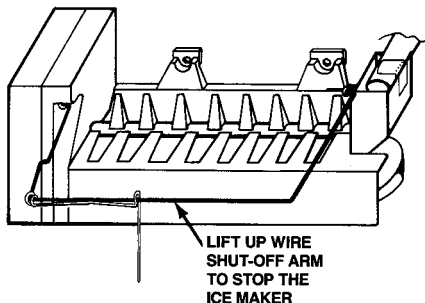

FIGURE 38
2. **Stopping Ice Production:** To stop ice production or to remove the ice bin: take hold of wire arm near black housing, and lift up. There will be an audible "click" when ice maker shuts off. The wire arm stays in the upper position. See Figure 38. As long as the arm is in this position, ice will not be made. The unit will continue to dispense cubes from the ice bin until all have been used.